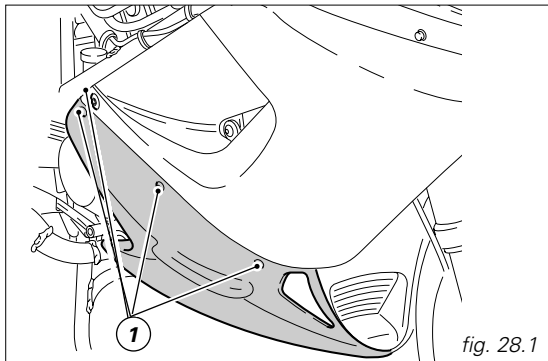

fig. 28.1
Unscrew the four screws (1) that hold each lower body panel to the upper body panels (fig. 28.1).